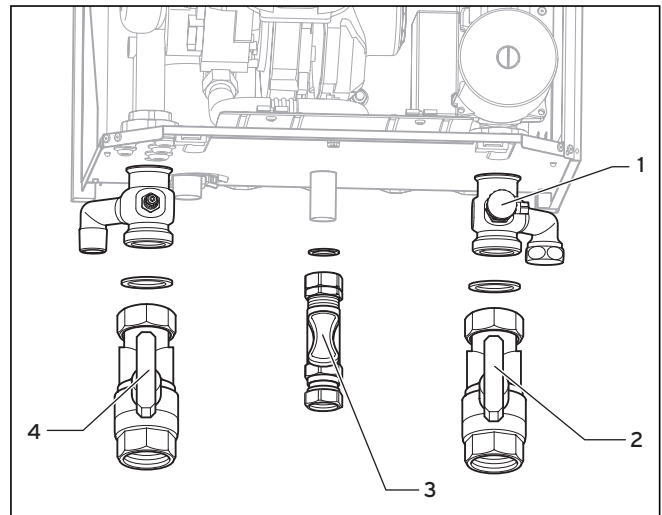

Fig. 5.10 Heating connection
- Screw the boiler's gas supply pipe (1) gas-tight with the gas isolation valve (3, see Fig. 5.10). To do this, use the R3/4 compression fitting supplied with the boiler. This is suitable for the connection of a R3/4 gas isolation valve.